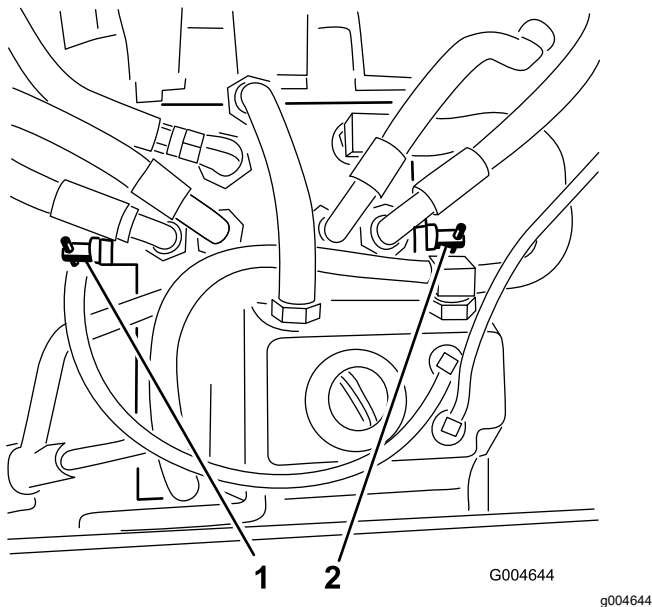

Figure 61
2. Locate the bypass valves (Figure 61) and rotate each bypass valve counterclockwise 1 turn.
4. Close the valves by rotating each valve 1 clockwise turn (Figure 61).